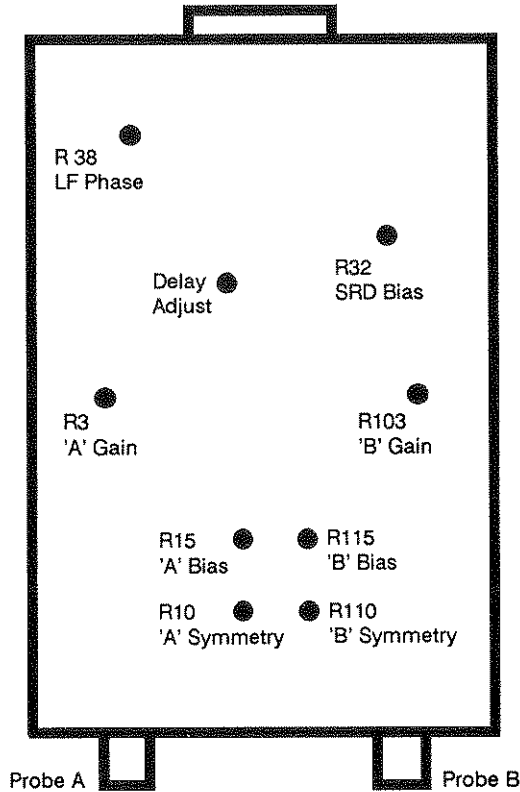

Figure 5-1. Input Module Adjustment Locations
5. Adjust R32 (refer to Figure 5-1) to obtain a maximum reading on DISPLAY 1.